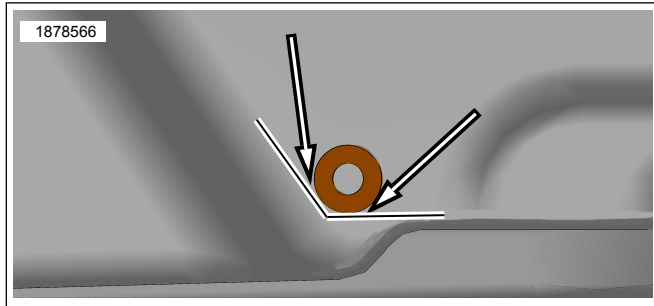

Figure 3. Saddlebag Lower Hole Drill Location
- b. Figure 3 Use grommet (7) from kit as a drill location guide.